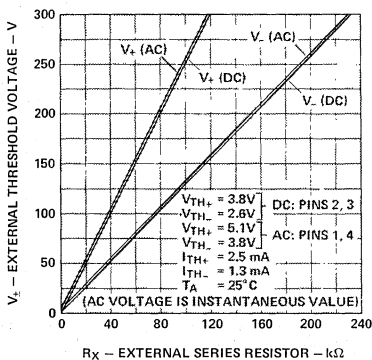
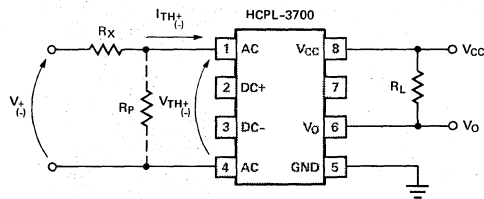

Figure 11. Typical External Threshold Characteristic,  $V_{\pm}$  vs.  $R_x$ .
Figure 12. External Threshold Voltage Level Selection.
The HCPL-3700 optocoupler has internal temperature compensated, predictable voltage and current threshold points which allow selection of an external resistor,  $R_x$ , to determine larger external threshold voltage levels. For a desired external threshold voltage,  $V_{\pm}$ , a corresponding typical value of  $R_x$  can be obtained from Figure 11. Specific calculation of  $R_x$  can be obtained from Equation (1) of Figure 12. Specification of both  $V_+$  and  $V_-$  voltage threshold levels simultaneously can be obtained by the use of  $R_x$  and  $R_p$  as shown in Figure 12 and determined by Equations (2) and (3).